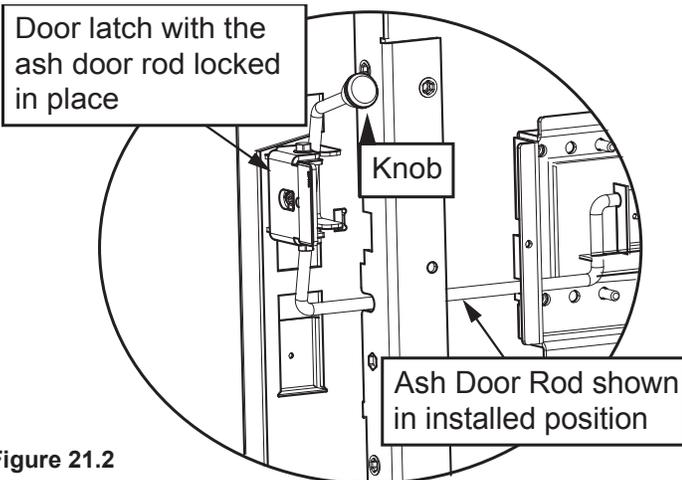

Figure 21.2
10. Add knob to handle rod (**Figure 21.2 on page 21**).